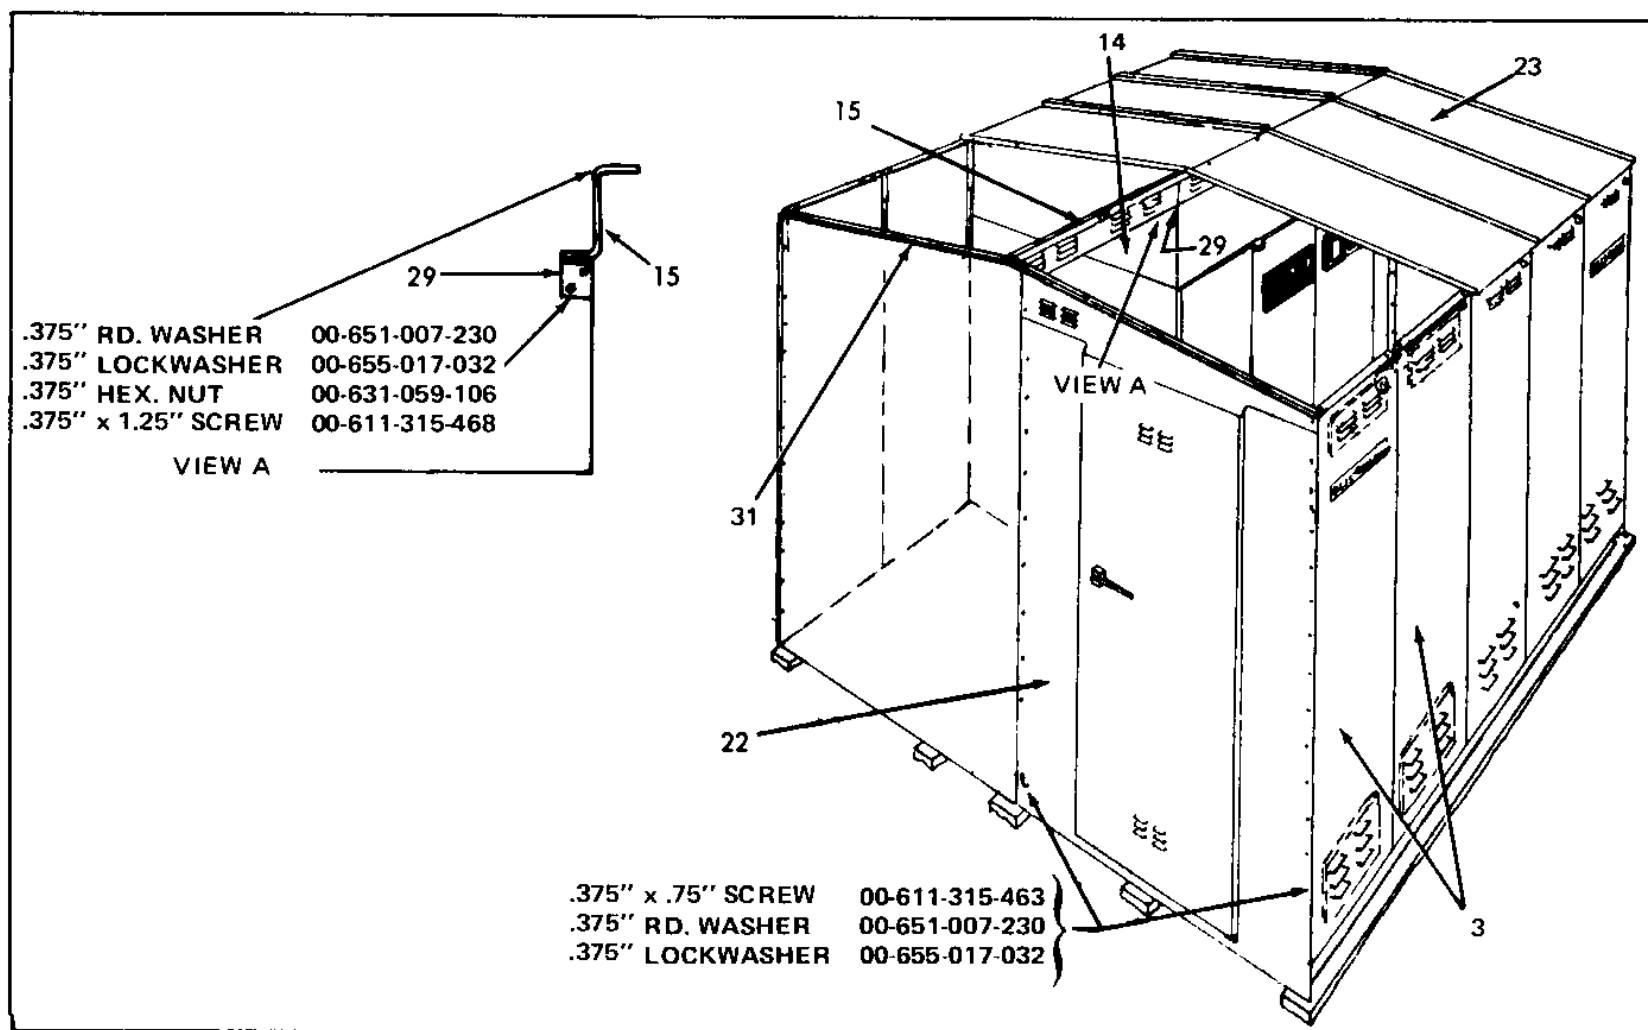
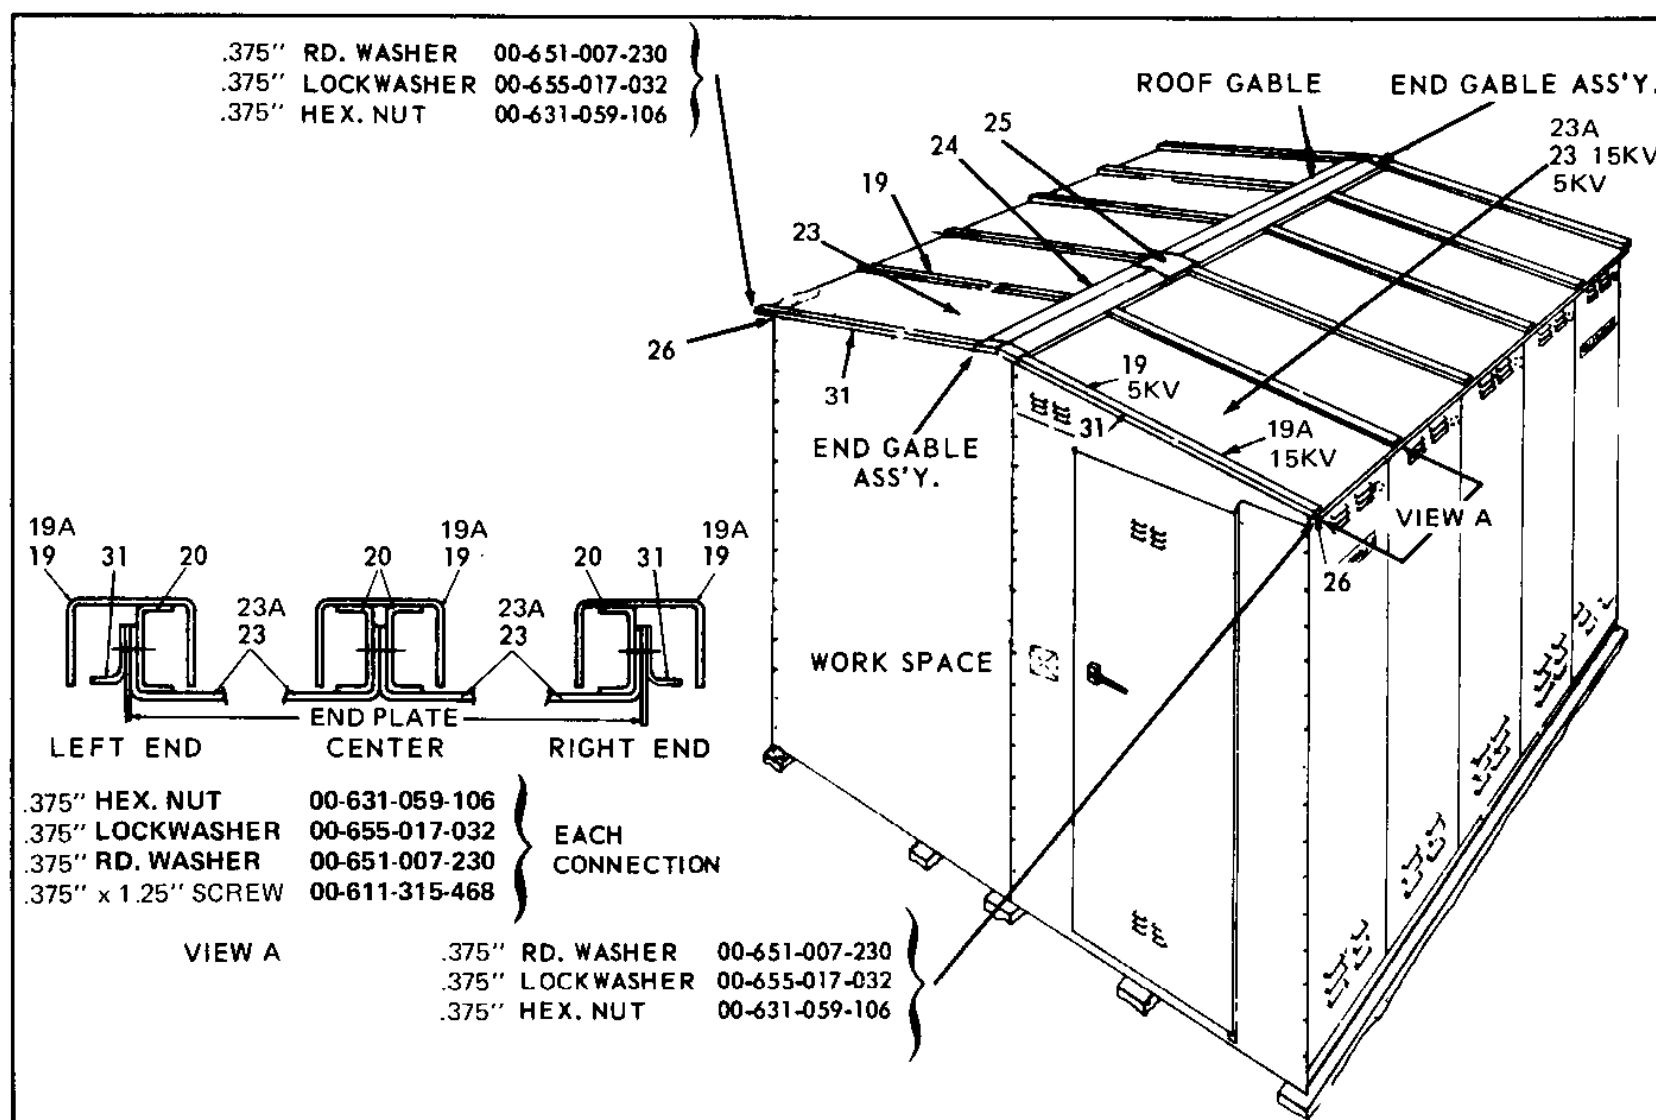

Figure 39. Door and Roof Support Installation (5 KV) – Single Aisle with Work Space
Figure 40. Roof Assembly (5 KV and 15 KV) – Single Aisle with Work Space
13. Apply .50-inch sealant tape to door frame assembly (22) and bolt it in place. Place tape so that one edge is on the vertical centerline of the mounting holes and the other edge is toward the point of weather exposure (Figure 39).
14. Remove trim angle (31) from end of cubicle and attach angle (29) to end of switchgear. Install roof support (15) from cubicle to end of work space. See view "A" for attaching support (15) to angle (29).
15. Put all roof decks (23) in place and bolt to the top of the end plate and to the roof support (15). Leave hardware finger tight until step 17 is complete.
16. Fasten roof decks (23) together using bracket (20). See view "A", Figure 40.
17. Mount trim angle (31). Tighten bolts.
14. Remove angle (31) from L.H. end of cubicle (see Figure 40). Attach angle (29) to end of switchgear, Figure 39. Install roof supports (15) from cubicle across beam (14) to end of work space. See view "A" for attaching support (15) to angle (29).
15. Put all roof decks (23A) in place and bolt to the top of the end plate and to the roof supports (15). Leave hardware finger tight until Step 17 is complete.
16. Mount trim angle (31).
17. Fasten roof decks (23) together using brackets (20). See view "A". Figure 40. Tighten bolts.